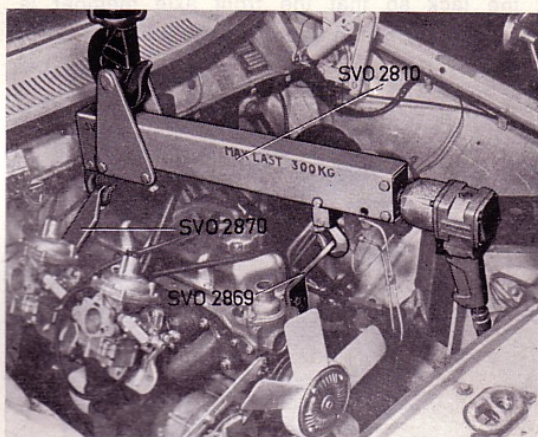
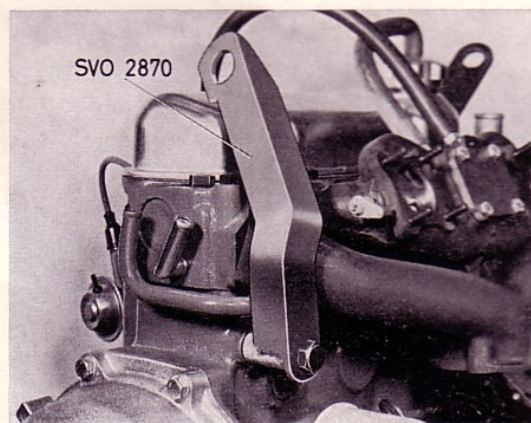
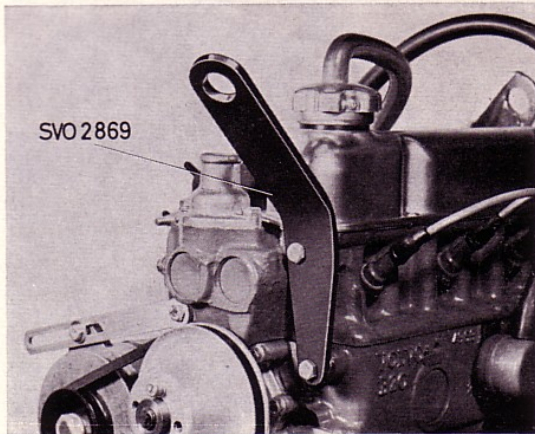

Fig. 13 Lifting out the engine
Fig. 14 Fitting lifting lug on engine rear end
Fig. 15. Fitting lifting lug on engine front end
20. Fit lifting lug SVO 2870 as shown in Fig. 14. and lifting lug SVO 2869 according to Fig. 15. The lifting lug is attached by 2 bolts 3/8" UNC-1" - resp. 1 1/4". Fit on lifting tool SVO 2810 according to Fig. 13 and lift out the engine.
1. Fit on the lifting lugs and beam according to Figs. 14. 15 and 13.
9. Adjust the clutch play according to Part 4 (41) "Adjusting the clutch pedal play".